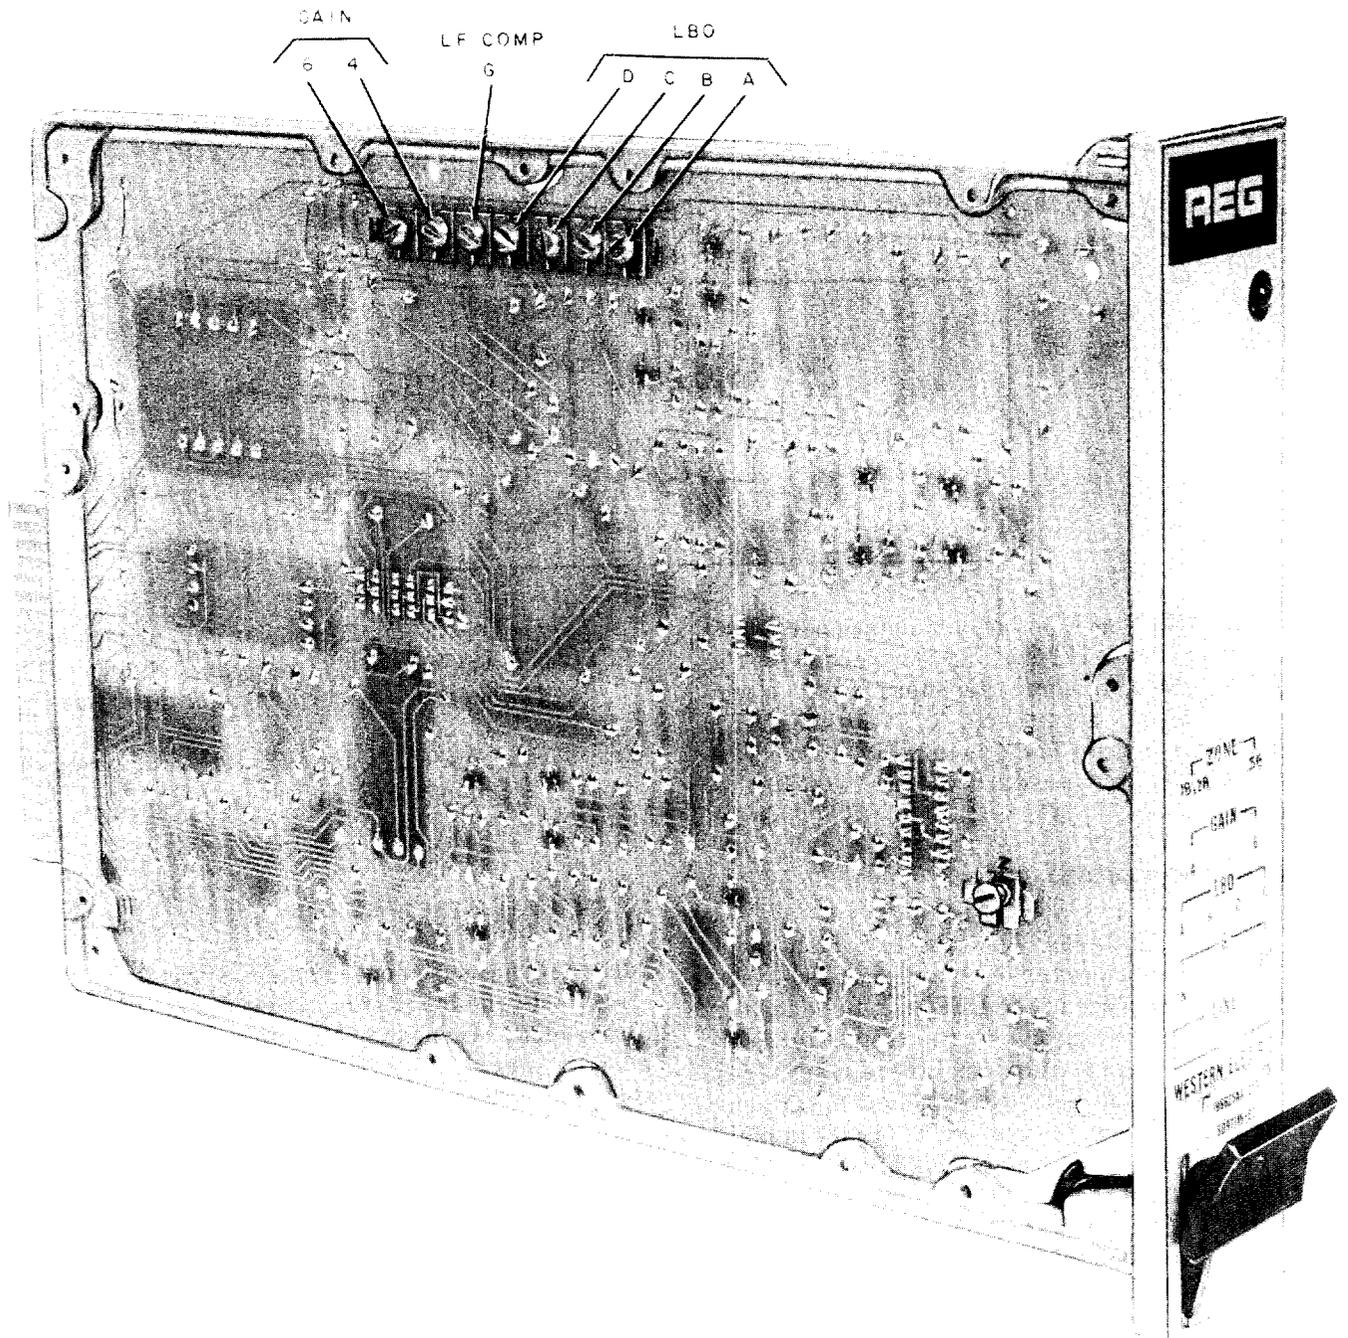

Fig. 3—Range Extender With Gain, List 3
2.05 The REG, List 3 has an additional screw switch, labeled Z, (see Fig. 3) which lowers the threshold of the loop current detector for zone 36 signaling applications using the SD-31777-01 line circuit in step-by-step offices. The Z switch should be closed when REG, List 3 is used with the SD-31777-01 line circuit in zone 36.